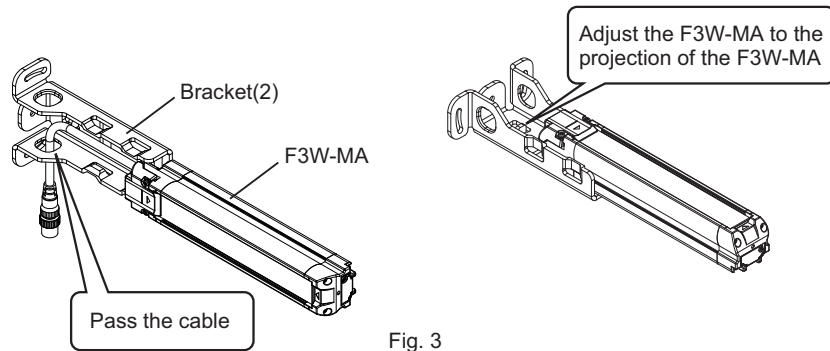

Fig. 3
- Pass the cable of the F3W-MA from the inside to the outside through a hole in the side of the Bracket(2). Slide the Bracket(2) in the grooves of the F3W-MA housing to the position shown below. (Fig. 3)